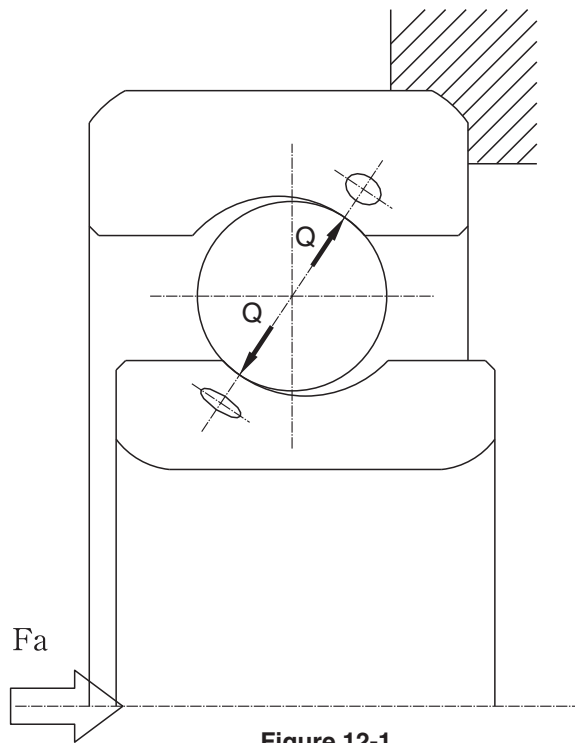

Figure 12-1
If there is any internal clearance in a ball bearing, the balls will have more play, the stiffness of the ball bearing will be minimal, and the vibration levels of the shaft will increase. Therefore, internal clearance needs to be adjusted to zero by applying an axial load (F_a) as shown in the figure 12-1. This load, applied in the axial direction, is called the "preload," and reduces vibration and noise. It is not enough to apply the appropriate preload method; the magnitude of preload should also be selected carefully to the required performance of the ball bearing. If the preload is applied excessively, the bearing stiffness will increase. However, bearing life will be shorter, and bearing noise will increase as well. If the applied preload is insufficient, fretting damage could occur due to vibration and low bearing stiffness. Therefore, selecting the appropriate preload is an important factor when considering the performance of a ball bearing.
In figure 12-1, the contact ellipse area (S) between the balls and raceways is formulated as